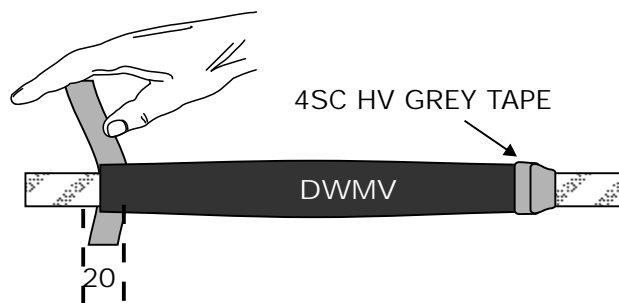

Fig 9
14. Take the six pieces of 4SC HV Grey Mastic Tape and apply to the ends of the DWMV Tubes and Copper Tape Screens by approx 10mm each as shown in Fig 9.